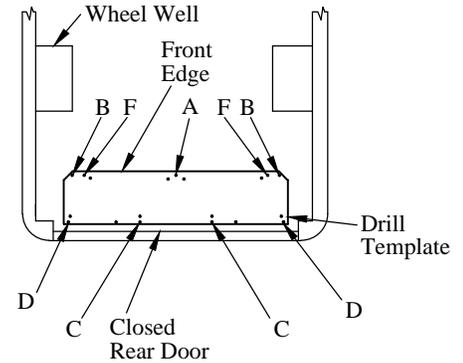

Figure 6: Drilling location (top view).
14. **Drill** 3/8" holes in nine (9) locations in the template. Drill "A", "B", "C", "D", and "F" locations only, skip all others (Figure 6). Insert a 3/8" bolt into each hole as it is drilled to maintain hole alignment and template position.